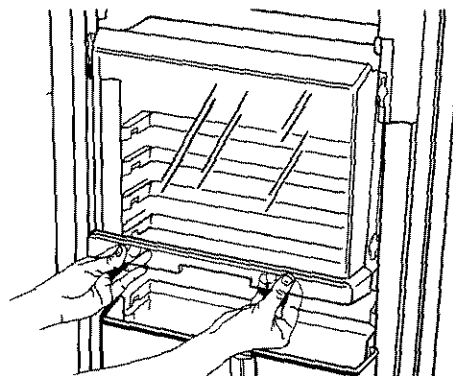

FIGURE 77
2. Slide door down and out through the bottom of the track. See Figure 77.